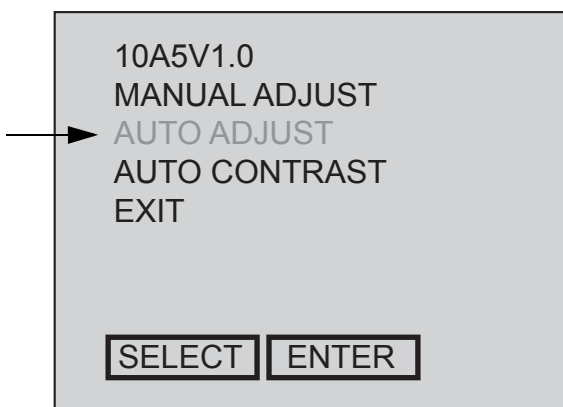

Figure 6-27 OSD Softmenu 1
- 12.) The first screen is shown on the display. Touch **SELECT** three times to select **EXIT**. Refer to Figure 6-27.